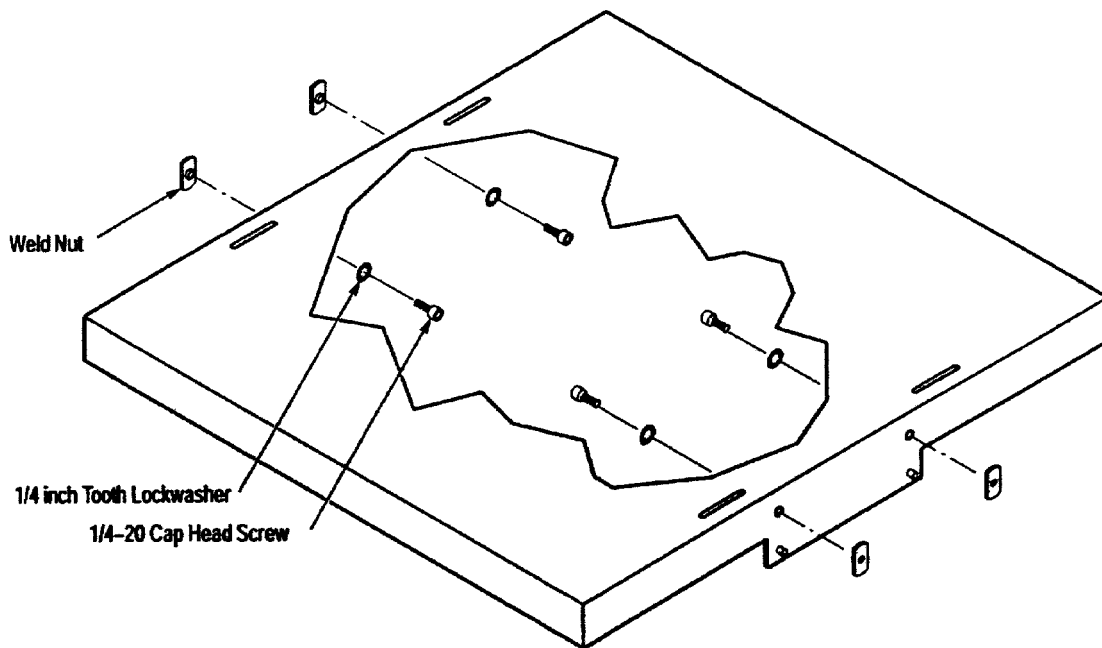

Figure 10: Preparing the Top Shelf
1. Prepare the top shelf as shown in Figure 10 by installing a cap head screw, a tooth lockwasher, and a weld nut in each of the four side holes of the shelf. Leave each screw assembly loose; do not screw the weld nut onto the cap head screw more than one full turn.